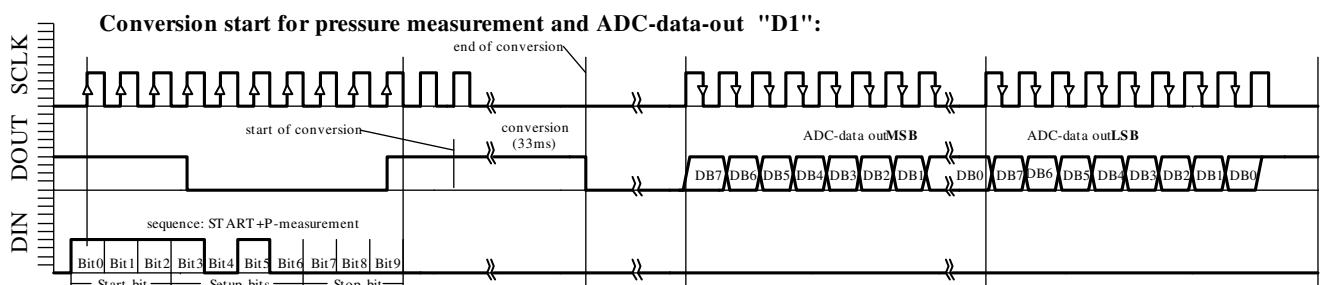

Fig. 6a: D1 ACQUISITION sequence.
- Conversion START for pressure measurement and ADC-data-out "D1" (Figure 6a)